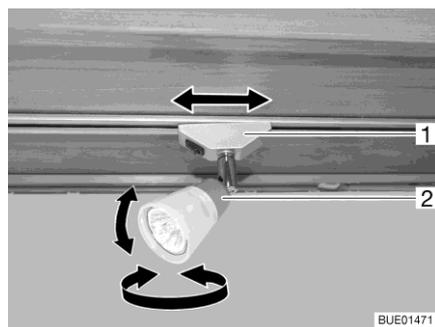
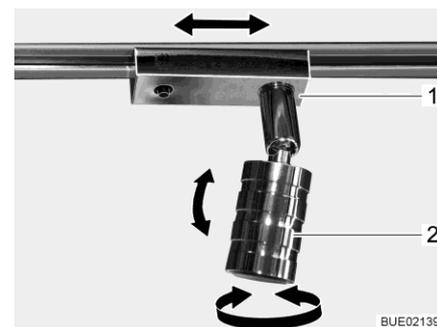

Fig. 84 Spotlight
Fig. 85 Spotlight (alternative)
- Grasp the housing (Fig. 84,2 or Fig. 85,2) and turn it.
- Grip socket (Fig. 84,1 or Fig. 85,1) and turn by approx. 45°.
- Grip socket (Fig. 84,1 or Fig. 85,1) and turn by 90°.